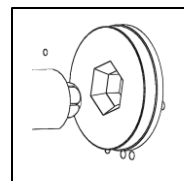

Figure 10a
14. **FILM BRACKET AND HOLDER:** Film supply is loaded into the holder (figure 10a) and bracket (figure 10b).